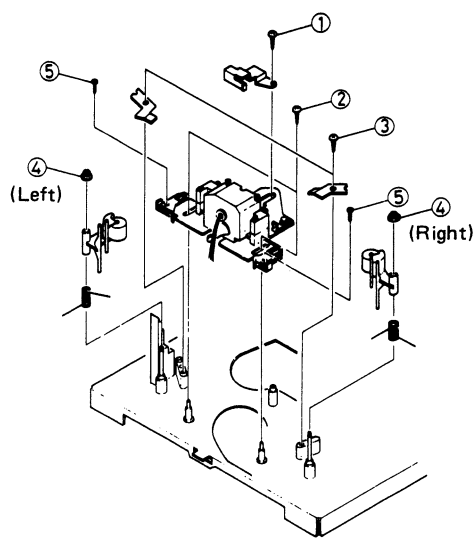

Fig. 7
1. Left pinch roller (Fig. 7)
2. Right pinch roller (Fig. 7)
- 1) Take out adjust screw ④ VKS4513-001 retaining the pinch roller arm assembly.
3. Head assembly replacement (Fig. 7)